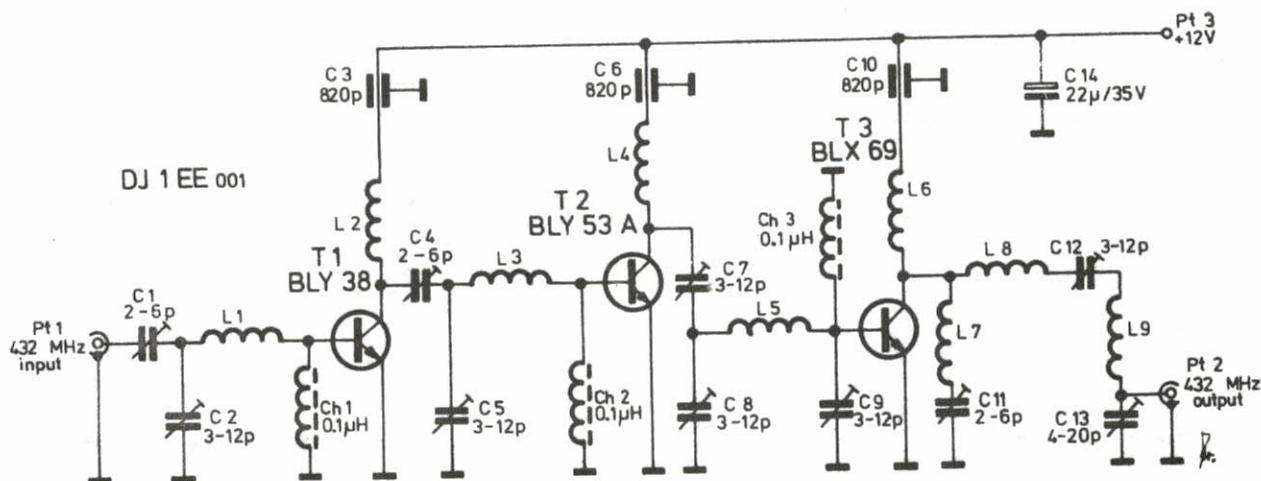

Fig. 1: Circuit diagram of the three-stage 432 MHz 18 W amplifier
The circuit diagram of the three-stage amplifier is given in Figure 1. Input and output impedance are 50 Ω . All inductances required for transformation and selectivity are in the form of printed striplines (L 1 to L 9). They were dimensioned as described in (1). It is planned to explain how the matching elements can be calculated from the transistor data in a later article.